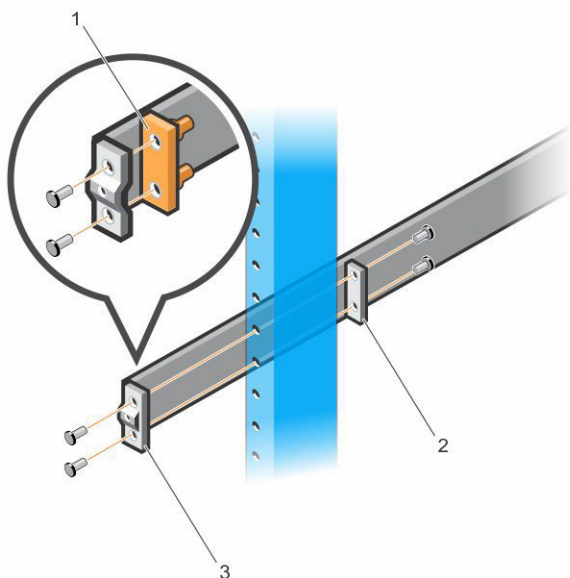

Figure 15. 2-Post Flush-Mount Configuration
- 1 For this configuration, remove the castings from the front side of each ReadyRails assembly. See item 1 in Figure 15. Use a Torx driver to remove the two screws from each front flange ear (on the switch side of the rail) and remove each casting. Retain the castings for future rack requirements. You need not remove the rear flange castings.
- 2 Attach one rail to the front post flange with two user-supplied screws. See item 2.
- 3 Slide the plunger bracket forward against the vertical post and secure the plunger bracket to the post flange with two user-supplied screws. See item 3.